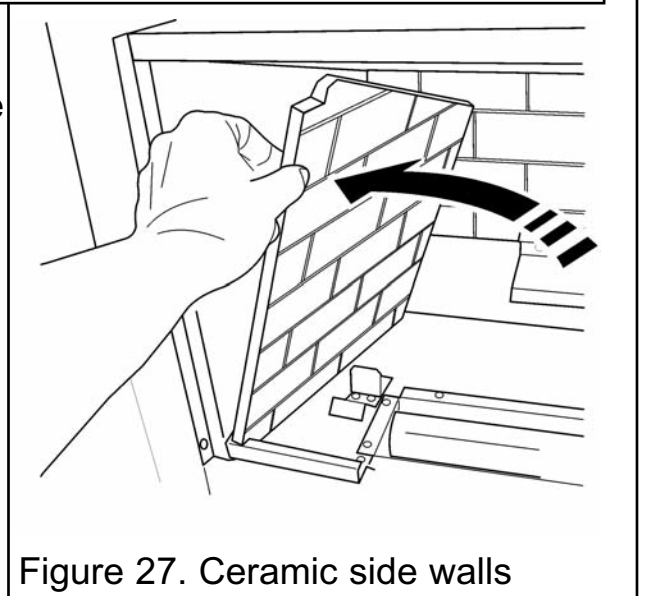

Figure 27. Ceramic side walls
Offer the ceramic side walls into the convection box. The bottom of the ceramic side walls should be located first (See figure 27). With the bottom in place gently lift the side wall until it is flat against the side of the convection box (See figure 27).
3. Gently lower the top of the ceramic side wall towards the burner being careful not to catch the bottom on the burner brackets (Reference figure 27). Lift the side walls clear of the convection box.